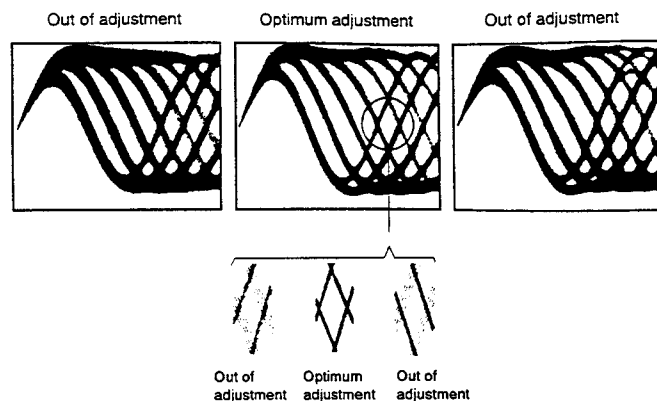

Figure 3 Eye Pattern
- Next, adjust the tangential tilt adjustment screw with the hexagon wrench GSK1002 so that the eye pattern (the diamond shape at the center of the RF signal) can be seen the most clearly (Figure 3).